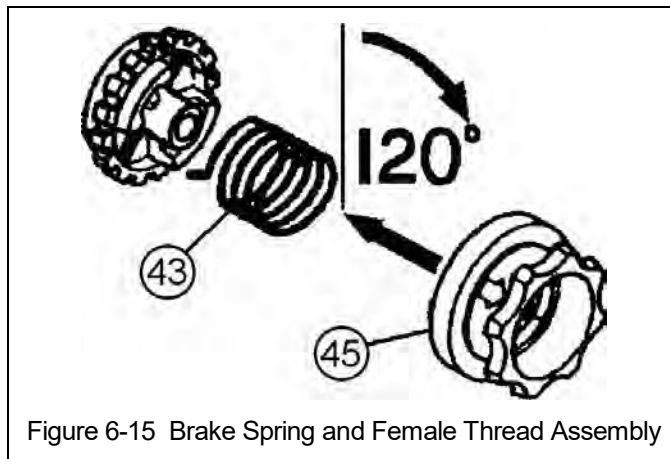

Figure 6-15 Brake Spring and Female Thread Assembly
- 3) While holding the load chain on the hook side firmly to prevent (19) Load Sheave from rotating, turn (45) Free Chain Knob assembly 120° clockwise while pressing it lightly on (33) Female Thread. Refer to Figure 6-15. As the Free Chain Knob turns, the cam parts of (44) Cam Guide fit into the slots of the Free Chain Knob.
- 4) Rotate the Selector Lever to the Up or Down position to temporarily retain the (45) Free Knob.